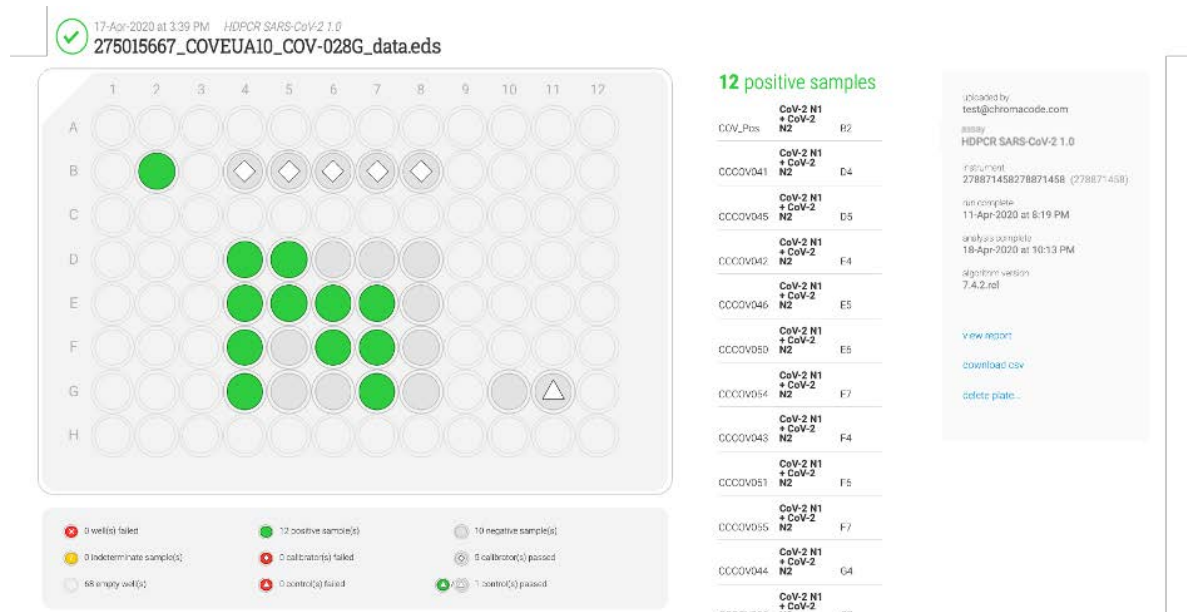

Figure 1 Plate Passing ChromaCode Cloud QC
The ChromaCode Cloud automatically assesses the plate QC status. This information is provided in a Plate Summary view and a Well Details page on the ChromaCode Cloud. Additionally, this information is consolidated in an exportable portable document format (pdf) report. The report can be downloaded from the Plate Summary page by clicking **view report** (seen in Figure 1).
HDPCR SARS-CoV-2 calibrators must be run and pass quality control checks on every plate run. If these calibrators do not pass quality control checks, the plate run will be automatically flagged as failed on the ChromaCode Cloud by a red X next to the run name, which will be written in red text (an example of a failed plate in Figure 2). A plate that has passed plate QC will have a green check and the run name will be written in green text (Figure 1).
ChromaCode Cloud automatically assesses the amplification and detection of the N1 and N2 targets and the RNase P (IC) internal control status for each sample. This information is provided in a Plate Summary view (Figure 1) and a Well Details page. Additionally, this information is consolidated in an exportable report.